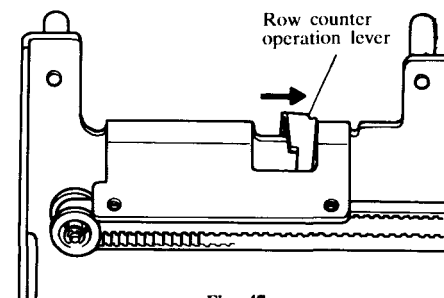

Fig. 47
- (1) Set the Row counter assembly and the Display window, then insert the screws into the holes on both side of the Row counter assembly.
- (2) By moving the Sensor belt, place the Row counter tripper to the right end. Adjust the position of the row counter and fix it with screws. (Refer to Fig. 47)